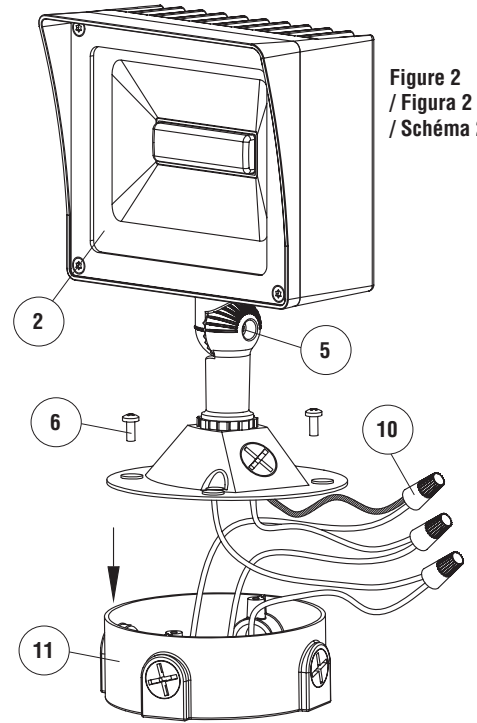

Figure 2
1. Pull out the supply wires and house grounding wire from the Junction Box (11) (see Figure 2).
2. Connect the grounding wire (green or bare copper) from the fixture to the grounding conductor of the supply circuit and secure with a Wire Nut (10). For proper wire connections, place wire nut over wires and twist clockwise until tight. If house wiring does not include a ground wire, consult local electrical code for approved grounding methods.
3. Connect the neutral wire (white) from the fixture to the neutral wire of the supply circuit and secure with a Wire Nut (10).
4. Connect the hot wire (black) wire from the fixture to the hot wire of the supply circuit and secure with a Wire Nut (10).